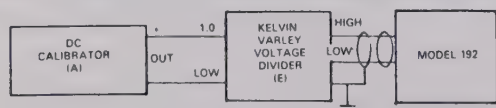

Figure 6-1. Test Circuit .2mV and 2V
3. Connect the DC calibrator (Item A, Table 6-1), Kelvin-Varley voltage divider (E) and Model 192 as shown in Figure 6-1.